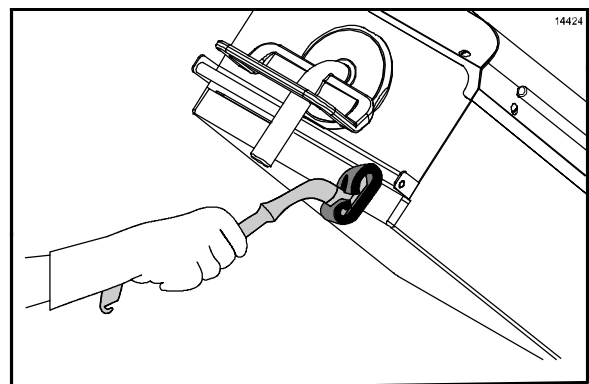

Figure 94
- Using the Kay Grill Cleaning Pad Holder, scrub the front side of the platens from the right platen to the left platen. (See Figure 94.)